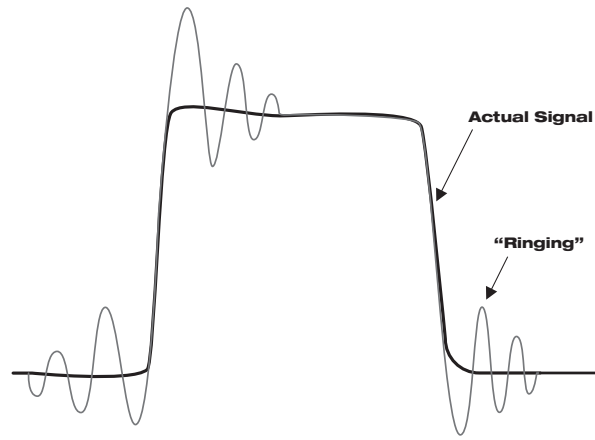

Figure 2. Ringing caused by parasitic inductance and capacitance distorts the signal and invalidates measurements.
- Floating the chassis ground in this manner threatens the user, the UUT, and the instrument. In addition, it violates industrial health and safety regulations, and yields poor measurement results. Moreover, line-powered instruments exhibit a large parasitic capacitance when floated above earth ground. As a result, floating measurements will be corrupted by ringing, as shown in Figure 2.
Less understood is the effect of ground-lead inductance. As lead length increases, parasitic inductance increases ($L_{\text{parasitic}}$ in Figure A). $L_{\text{parasitic}}$ is in the signal path and forms a resonant LC circuit with the inherent parasitic capacitance of the oscilloscope ($C_{\text{parasitic}}$). As $L_{\text{parasitic}}$ increases, the resonant frequency decreases, causing "ringing" (see Figure 2) that visibly interferes with the measured signal. Simply stated, the common lead must be as short as physical constraints of the circuit-under-test will allow.